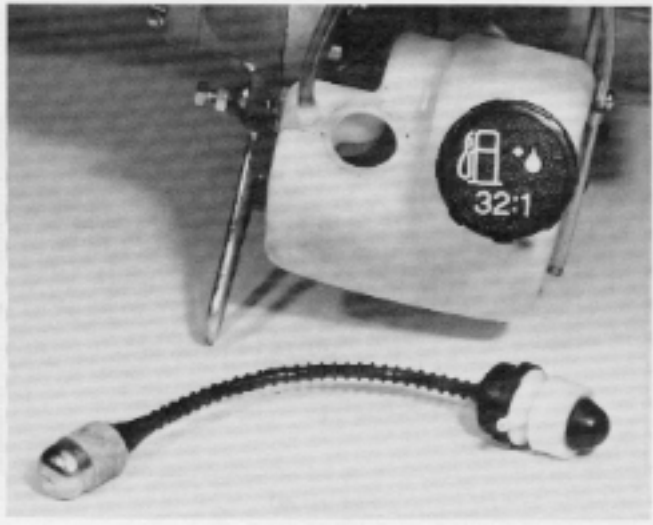

Figure 42
1. Pull the primer pump from the tank and remove the fuel line. The primer pump is press fit into the fuel tank. See Figure 42.